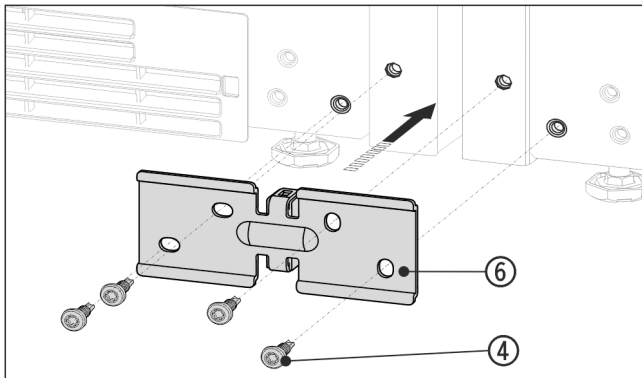

Fig. 12 Example illustration
- Slide the bracket Fig. 12 (6) on with the spacer between the appliances and screw in loosely with the 4 screws Fig. 12 (4).